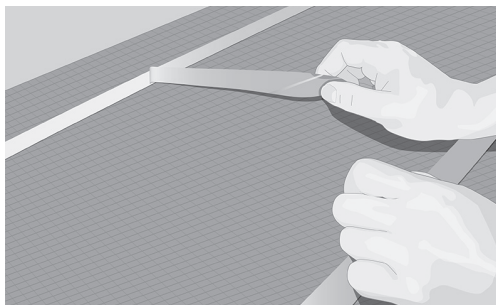

Fig. 9. Lay out double-sided tape and remove the backing
9. Fix the cable on the double-sided tape remove the liner as the cable layout proceeds (Fig. 9 and 10).